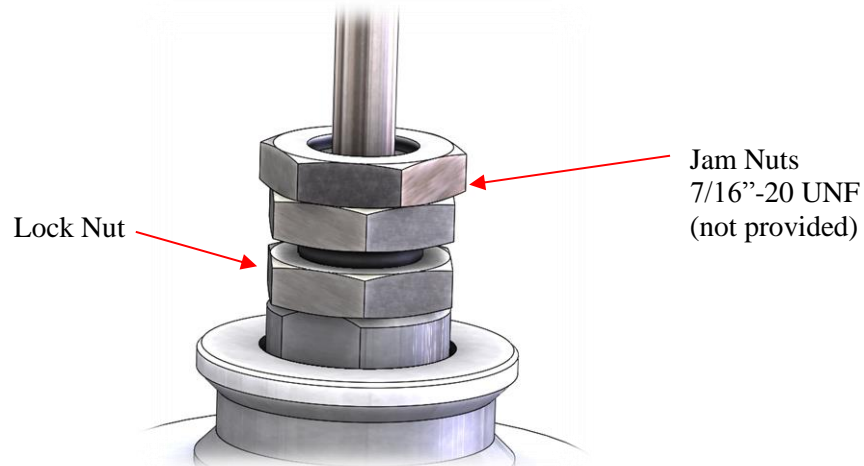

Figure 27: Jam Nuts Used on Adjustment Screw
7. Loosen the lock nut by using two additional jam nuts on the adjustment screw to prevent it from turning. See Figure 27.